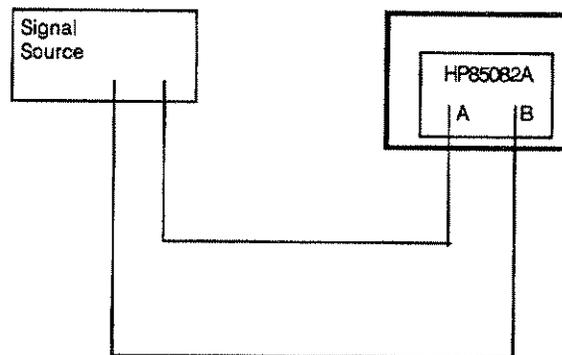

Figure 4-4. Phase Offset Accuracy Setup
1. Configure the equipment as shown in Figure 4-4.